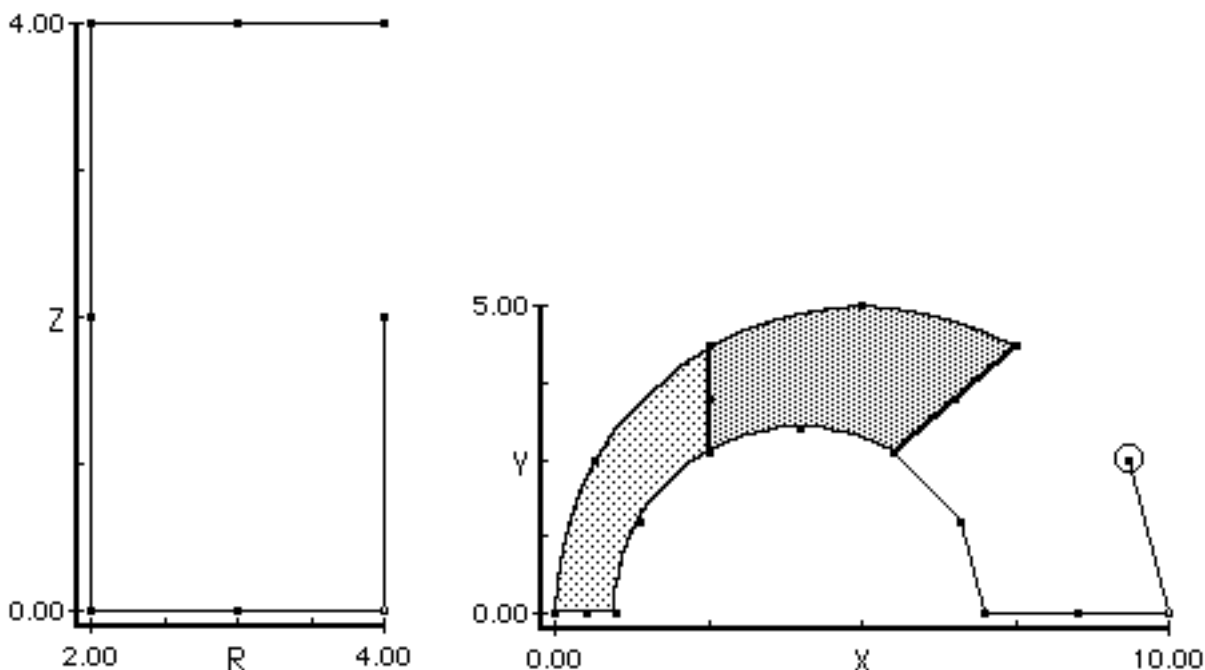

Fig 2.17 Region definition
- Click the Region selection icon and redefine the region (Fig 2.17).